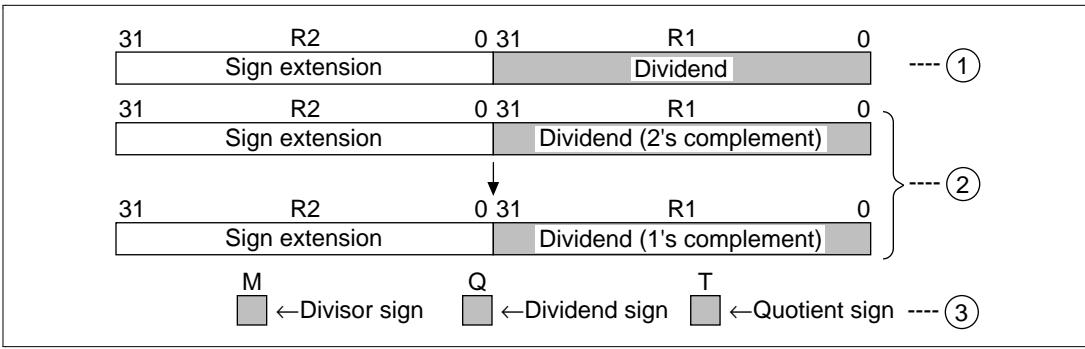

Figure 3.60 Initial Setting (DIVS32R)
1. Takes R2's upper 32 bits and zero-extends the dividend to 64 bits (figure 3.60 (1)).
2. If the dividend is negative, converts it to 1's complement for handling by the one-step division instruction (figure 3.60 (2)).
3. Sets the M, Q, and T bits used in one-step division to signed division values (M = divisor sign, Q = dividend sign, T = quotient sign) (figure 3.60 (3)).